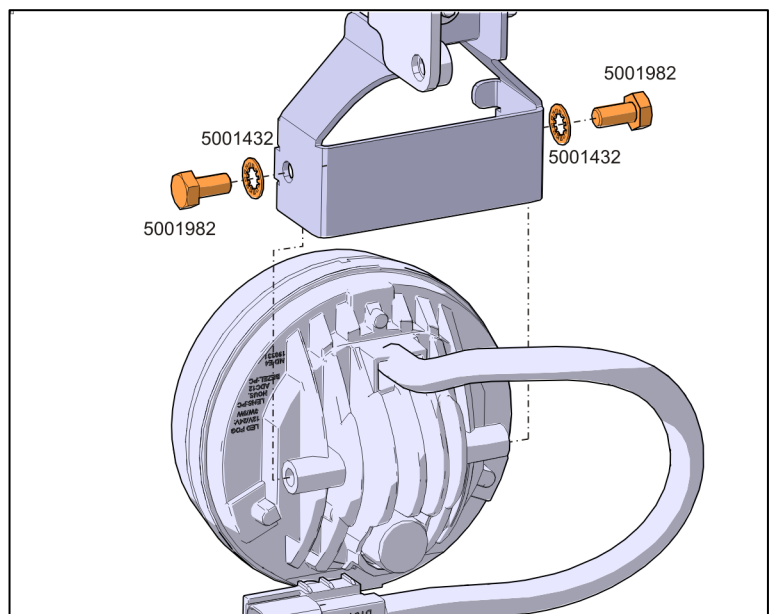

FIGURE 18
9. Secure all light cables as shown in Figure 18.